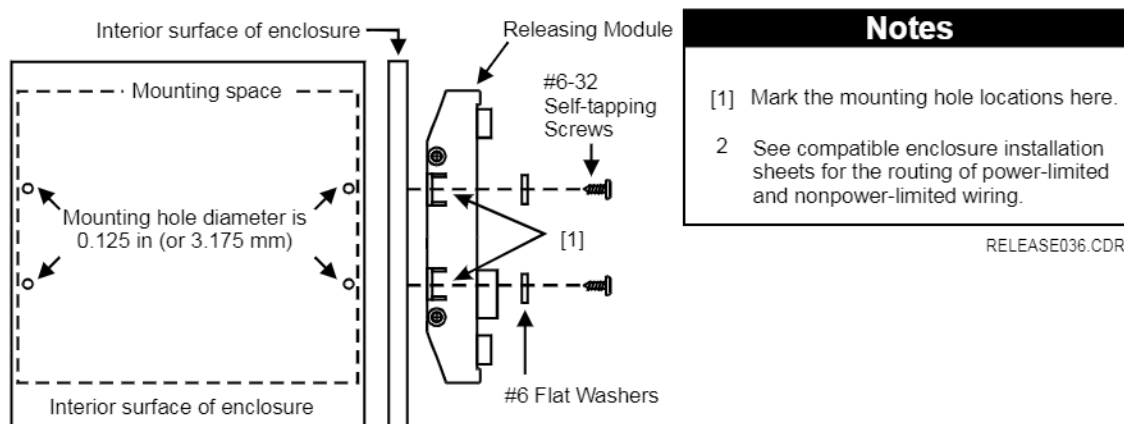

Figure 1-4: SIGA-REL mounting holes in compatible cabinets
- 1 Use the SIGA-REL to mark the mounting hole locations (Figure 1-4).